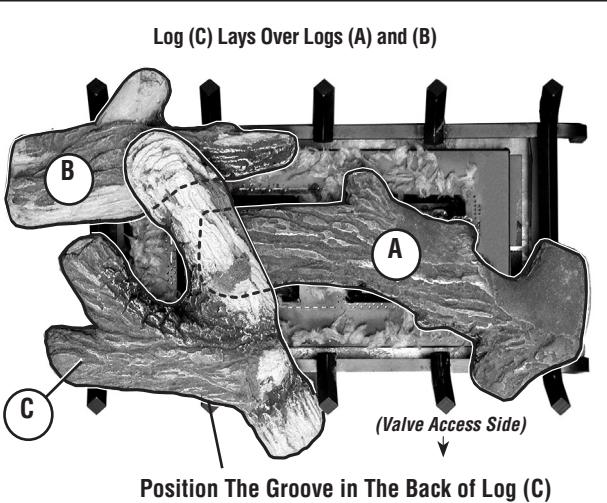

Figure 73
8. Place Log (C) as shown in **Figure 73**.